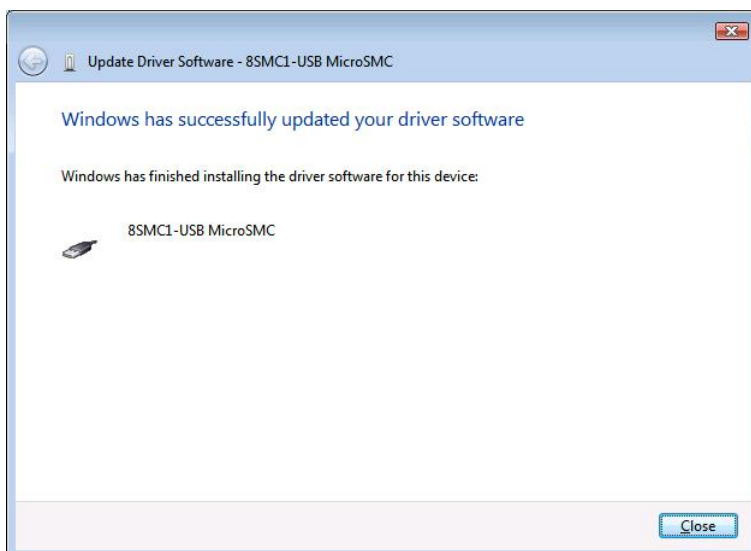

Figure 76. Windows has successfully updated driver.
- Then new driver will be successfully installed (see Figure 76).